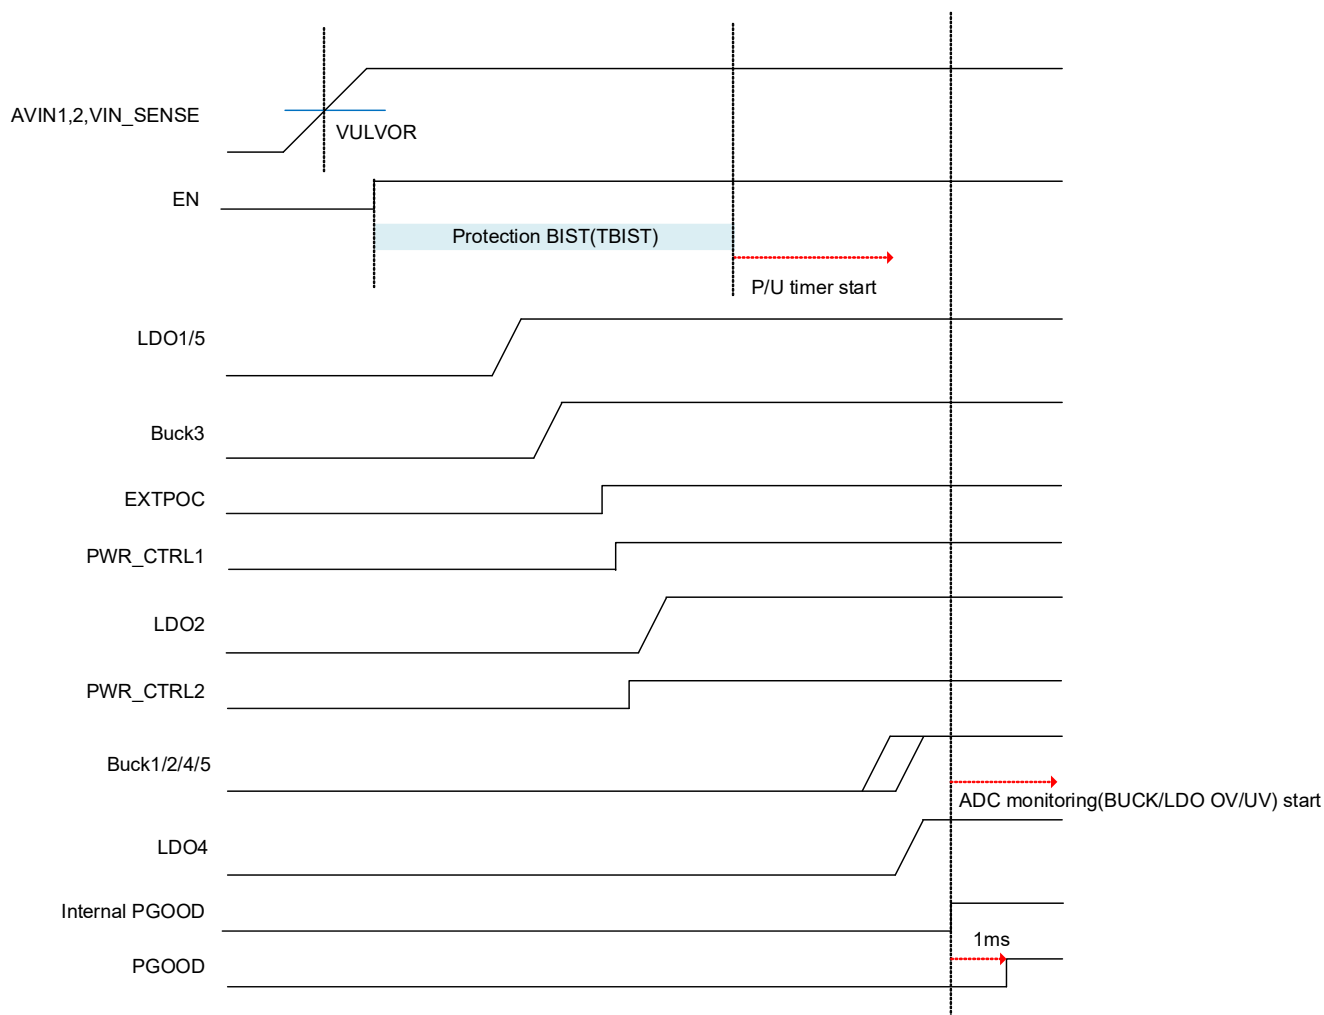
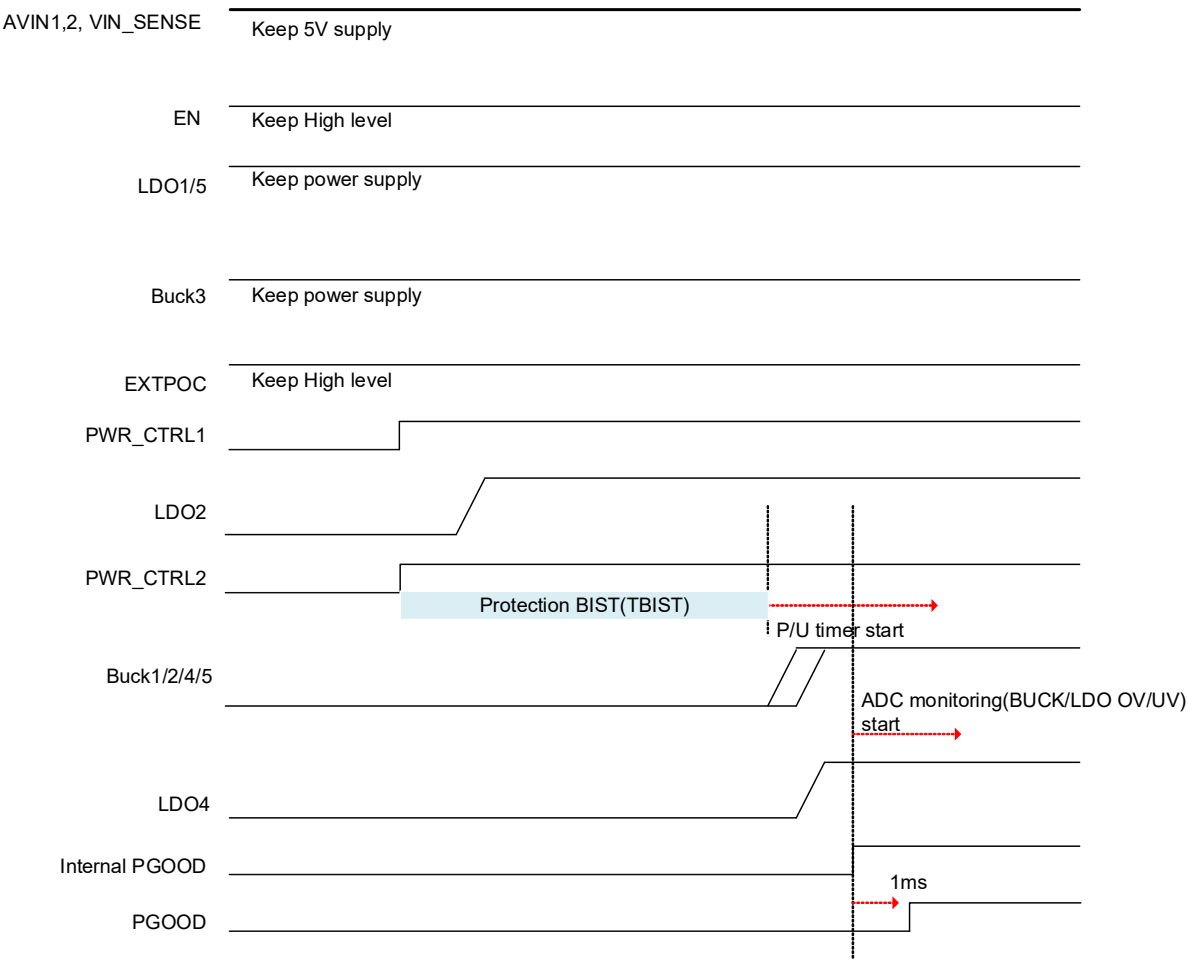

Figure 3. Power Off to Full Run (Cold Start)
Figure 4. DeepStop to Full Run (Warm Start)
- To set On delay and slew rate of each Buck and LDO so that the internal PGOOD goes High after a protection BIST(T_{BIST}). The protection BIST starts with EN at cold start or with PWR_CTL2 at warm start (see Figure 3 and Figure 4).